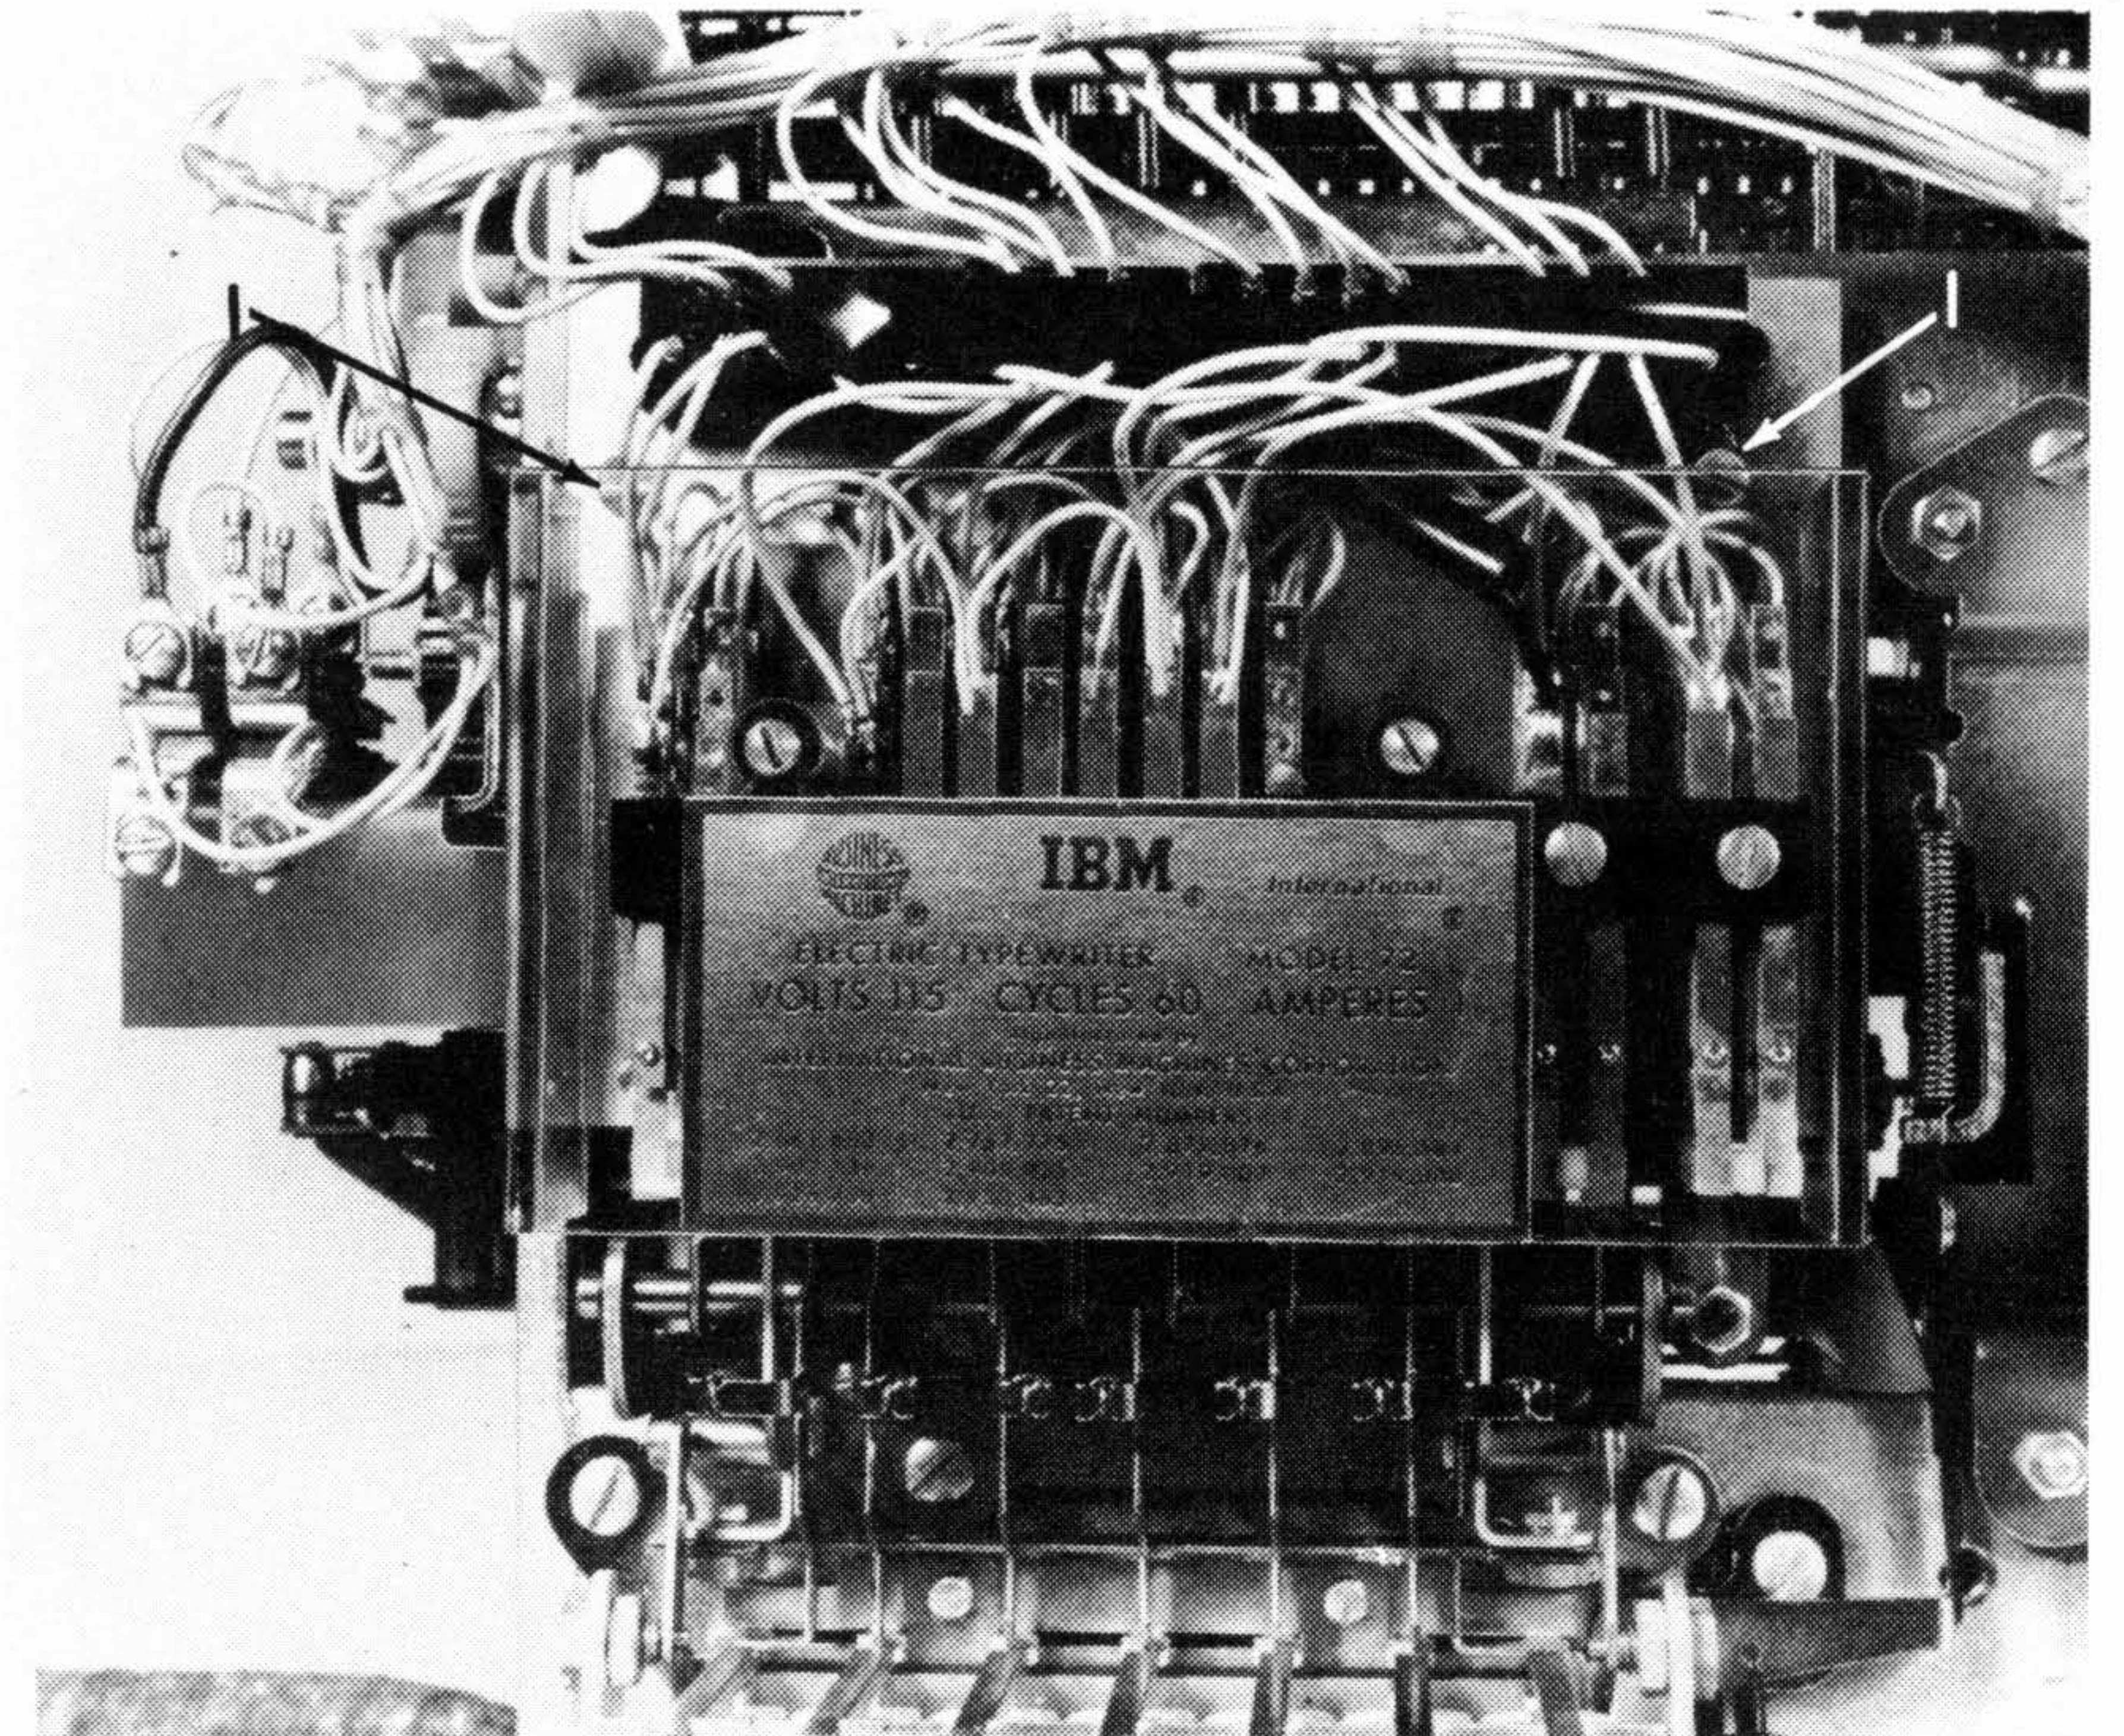

Figure 2. Cycle Clutch and Cycle Shaft Removal
7. Remove the two screws (#1, Figure 2) that hold the contact plate to the frame. Remove the contact assembly and hold it to the front with a rubber band.